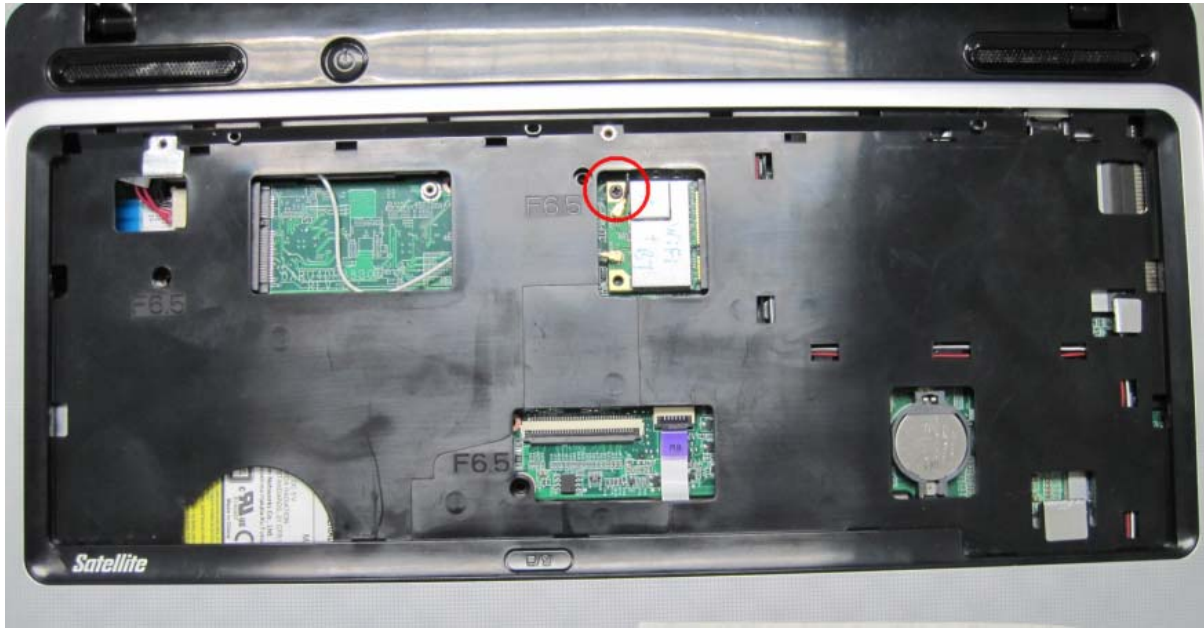

Figure 4-8-2 Remove WLBT screw
4. Remove SCREW M2.0x3.0F 1PCS and take off WLBT from the connector on the system board. (Figure 4-8-2)